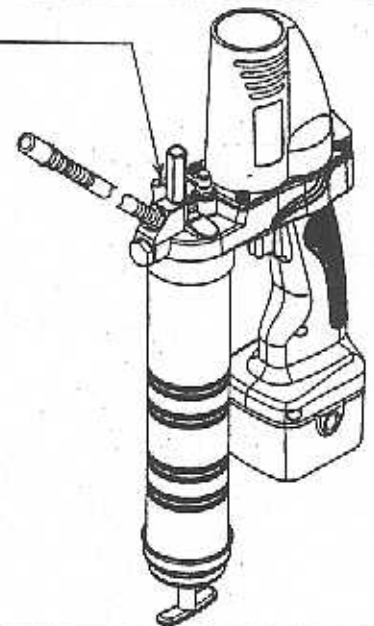

Fig.7
2. Fit the filler plug Fig.7 with the socket of filler pump.